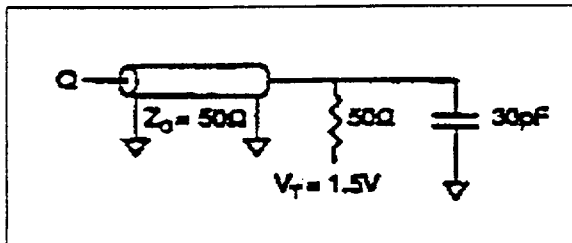

Figure 3. Output Load Equivalent
1. Test conditions as specified with the output loading as shown in Figure 3 unless otherwise noted.
| Output Load                   | See Figures 3 and 4      |